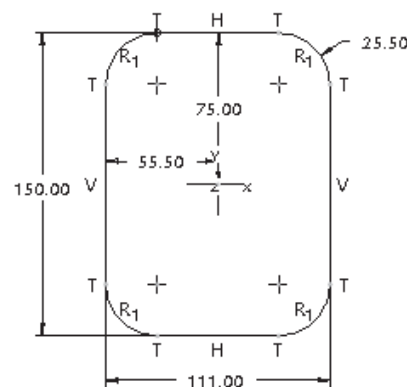

Figure 7-117 Sketch with dimensions and constraints of section 2
- Create the second section for the blend feature, refer to Figure 7-117.
1. Draw the sketch for the second section, insert a reference coordinate system, apply constraints and dimensions to the sketch, and modify the dimensions, as shown in Figure 7-117.